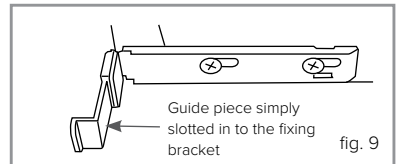

fig. 9
**pieces):** The gasket protection pieces double up as guides to ensure that the product is at the required depth in the cabinet when installed. Fit one to the top hinge and one to the bottom hinge, as shown in figure 9.